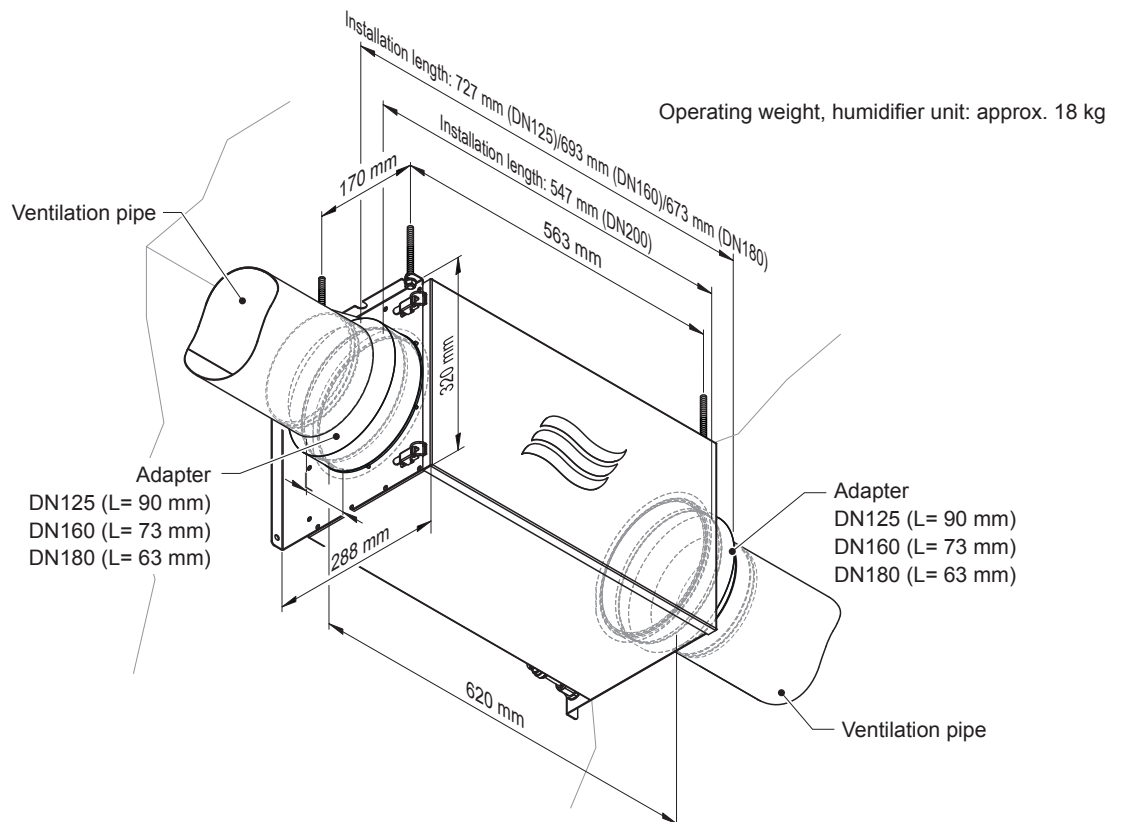
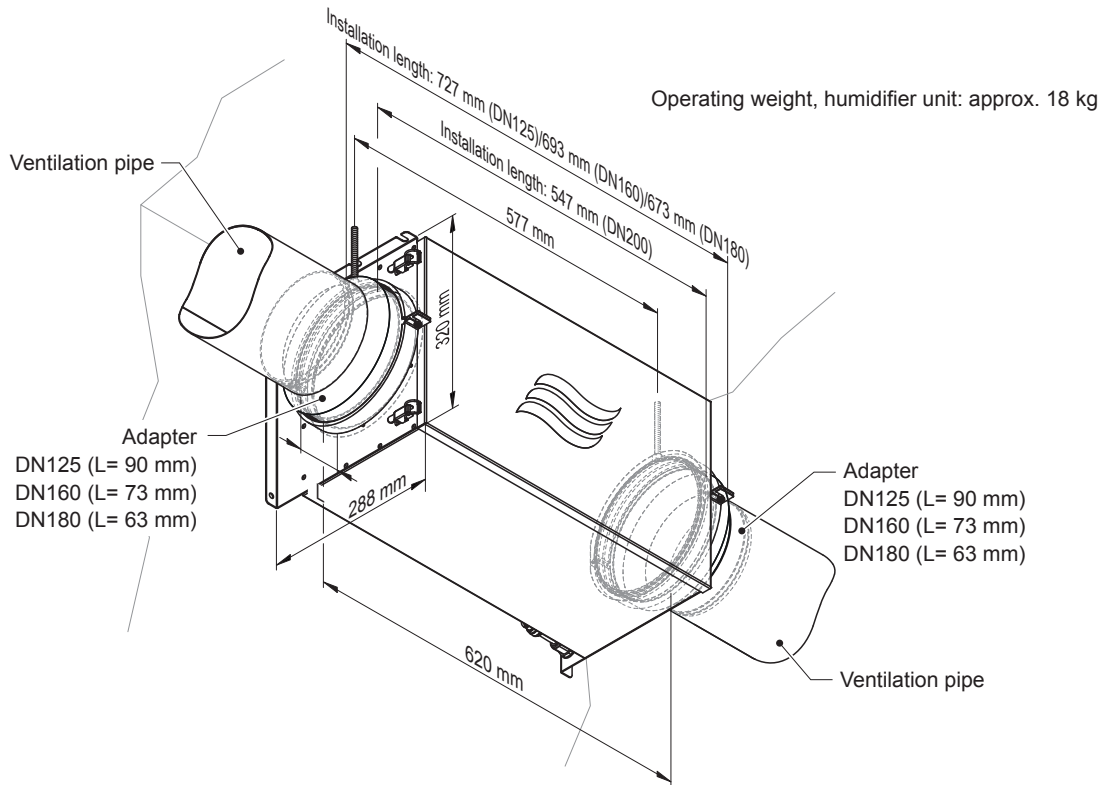
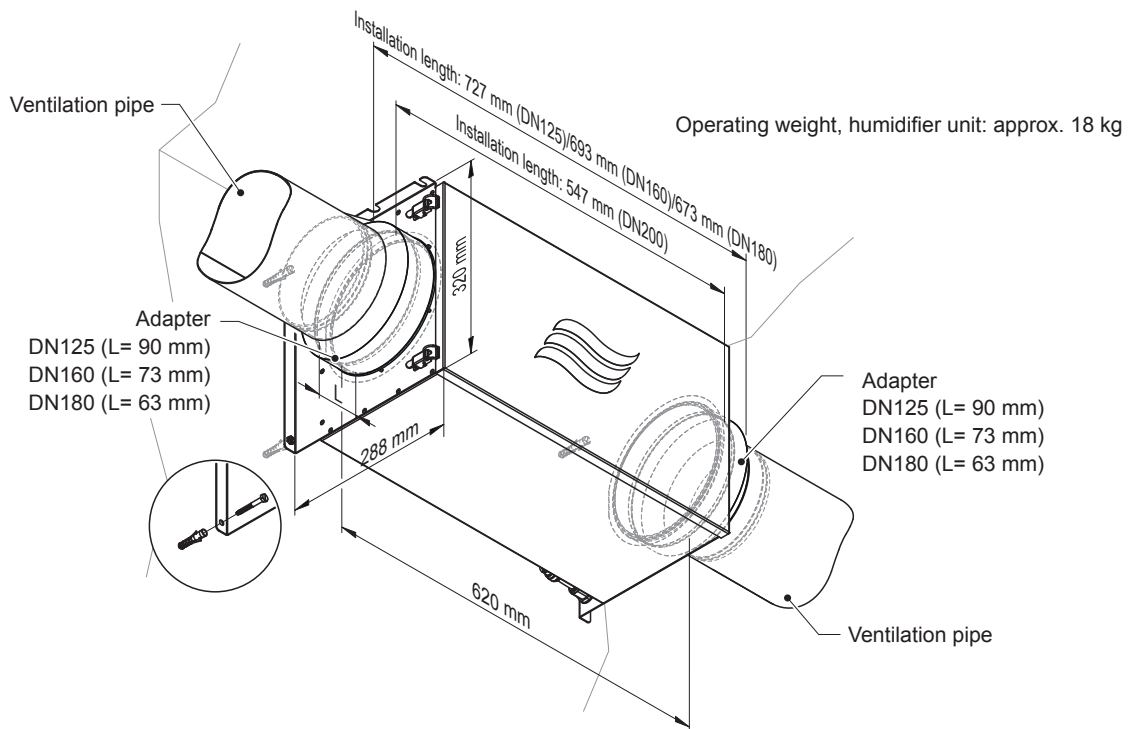

Fig. 3: Dimensions ceiling mounting with threaded rods
Fig. 4: Dimensions ceiling mounting with pipe clamps
Fig. 5: Dimensions wall mounting
- The ceiling/wall on which the humidifier unit or the hydraulic unit is mounted must have sufficient load-bearing capacity and be suitable for fastening (see Fig. 3, Fig. 4 and Fig. 5).
Ceiling mounting with threaded rods: The humidifier unit is fastened to the ceiling with four threaded rods and nuts (see Fig. 3). The fastening material is not included in the scope of delivery.
Alternative ceiling mounting with pipe clamps: The humidifier unit is fastened to the ceiling with two $\varnothing 200$ mm pipe clamps (see Fig. 4). The fastening material is not included in the scope of delivery.
Wall mounting: The humidifier unit is attached to the wall with 4 dowel pins and screws (enclosed) (see Fig. 5).